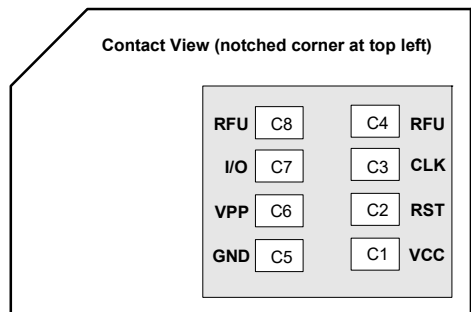

Figure 2-2: SIM Card Contacts (Contact View)
a. See Figure 2-2 on page 25 for SIM card contacts.